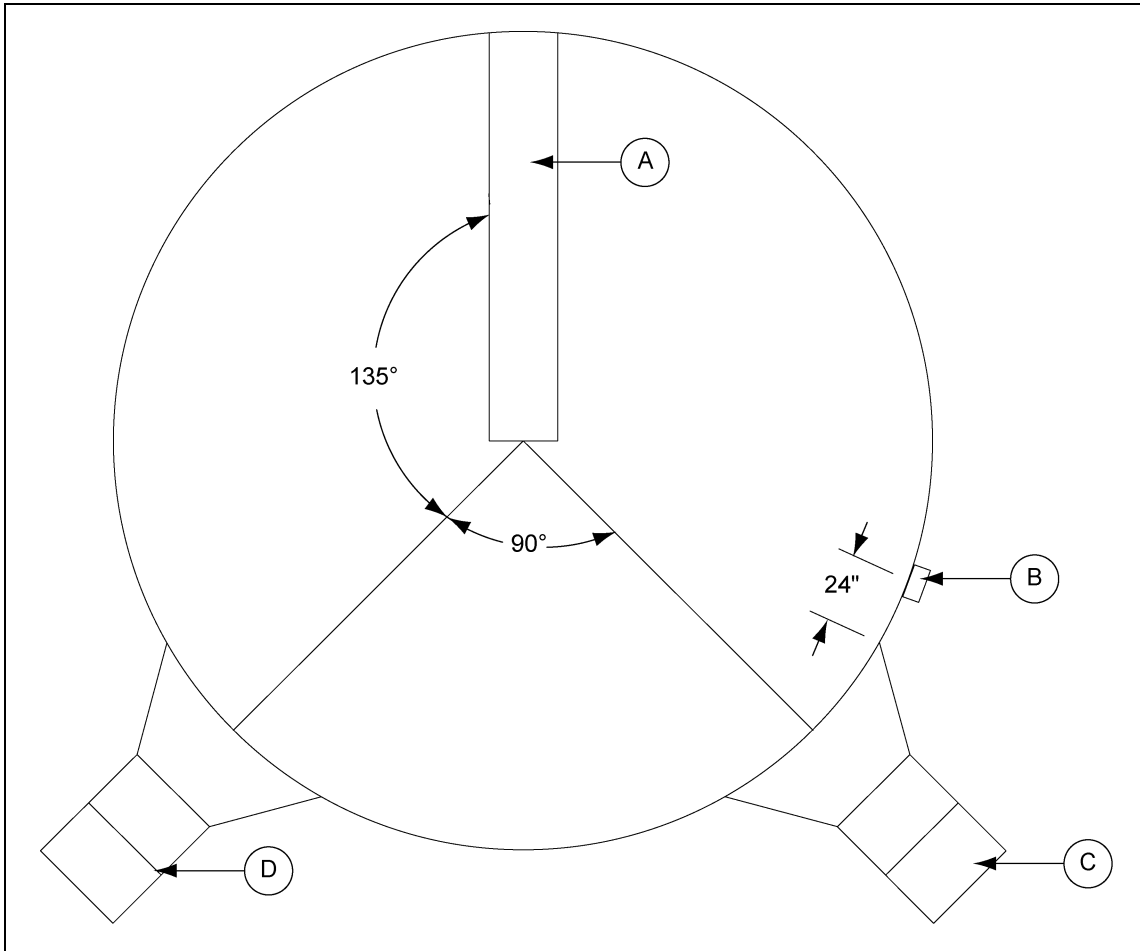

Figure 5G
IMPORTANT: When mounting two (2) heaters on a bin it is imperative that they be situated as shown in Figure 5G. Plenum thermostat must be to the right of master heater and master heater must be to the right of slave heater.